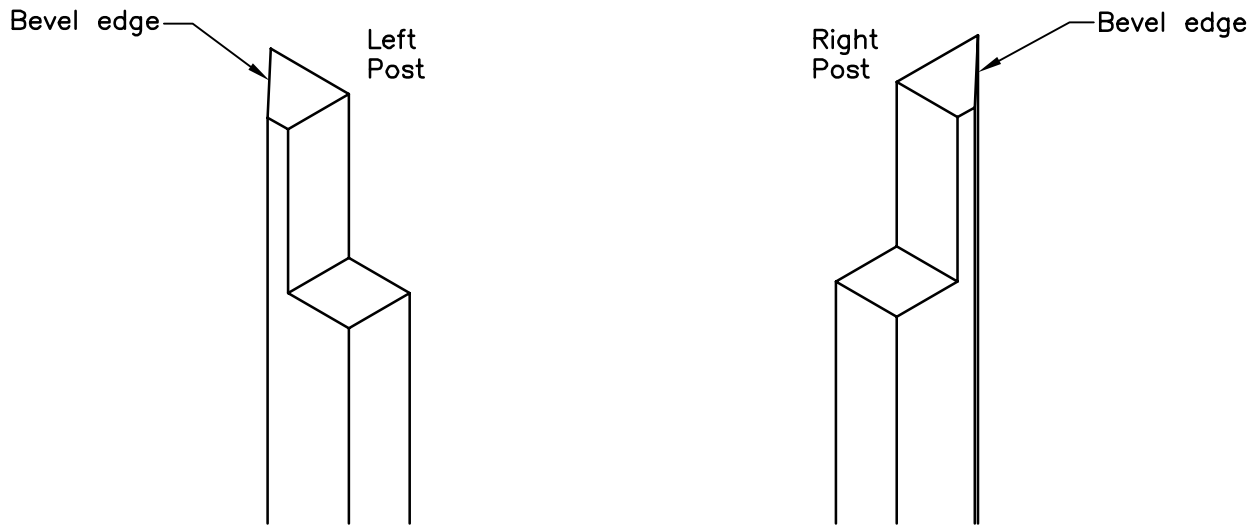

FIGURE S10
- Identify left and right posts by the bevel edges. See Figure S10 for clarification.